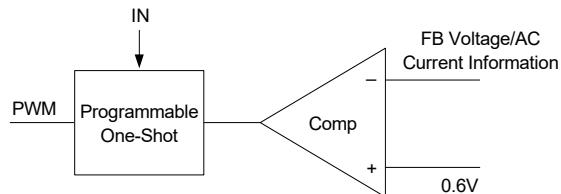

Figure 2. Simplified Control Schematic of AOZ2255AQI-30
The control algorithm of AOZ2255AQI-30 is constant-on-time PWM control with input feed-forward. The simplified control schematic is shown in Figure 2. The high-side switch on-time is determined solely by a one-shot whose pulse width is inversely proportional to input voltage (IN). The one-shot is triggered when the internal 0.6V is higher than the combined information of FB voltage and the AC current information of inductor, which is processed and obtained through the sensed low-side MOSFET current once it turns-on. The added AC current information can help the stability of constant-on time control even with pure ceramic output capacitors, which have very low ESR. The AC current information has no DC offset, which does not cause offset with output load change, which is fundamentally different from other V^2 constant-on time control schemes.